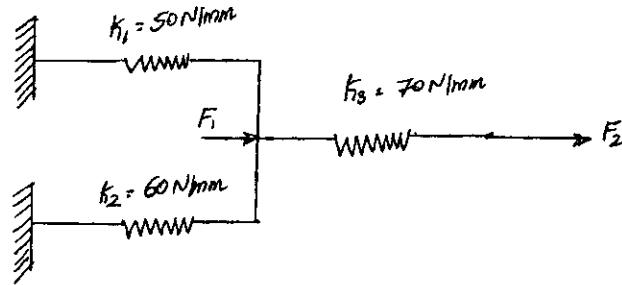

Fig.Q3(a)
3. a. Determine the nodal displacement using principle of minimum potential energy for the springs shown in Fig.Q3(a). Take $F_1 = 75 \text{ N}$, $F_2 = 100 \text{ N}$.